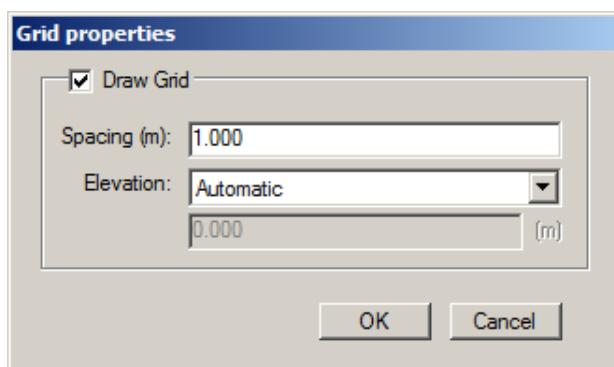

Figure 2.3: The Grid Properties Window
- GRID - Accesses display settings of a reference grid in the *XY* plane. Every tenth grid line is highlighted to aid in visualization, and the global *X*- and *Y*-axes are displayed as dashed lines. From the GRID PROPERTIES Window, seen in Figure 2.3, it is possible to toggle the grid display, change the spacing and set the grid elevation. Setting the *Elevation* to **Automatic** will draw the grid at the minimum elevation of the project.